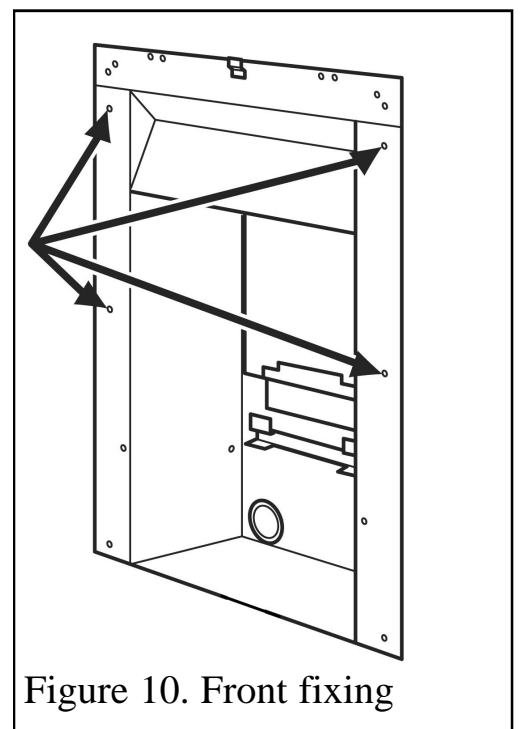

Figure 10. Front fixing
3. Mark the fireplace front surround through the four fixing holes in the side flanges of the hotbox (See figure 10).